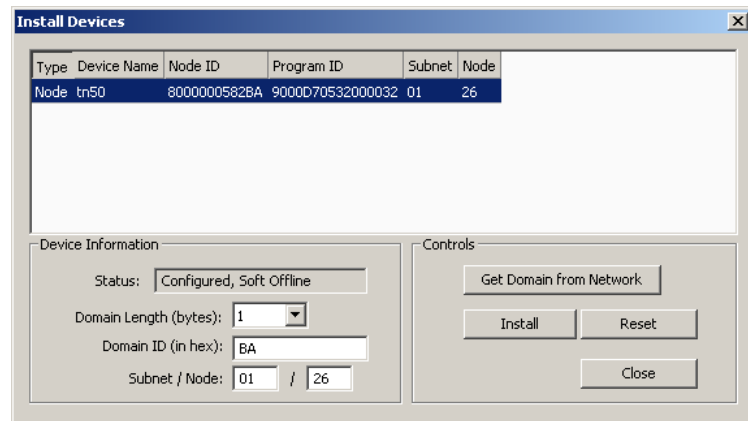

Figure 93: Install devices dialog.
- Click the **Install** button. This opens the **Install Devices** dialog as shown in Figure 93.